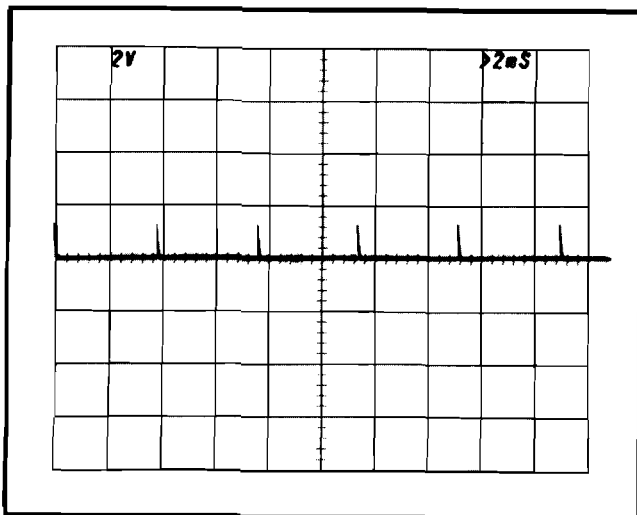

Fig. 5-10. Typical CRT display when checking VARIABLE control range.
- c. CHECK—CRT display for a two-division maximum spacing between markers (indicates adequate range for continuously variable sweep rate between the calibrated steps; see Fig. 5-10). Return the VARIABLE TIME/DIV to the CAL IN position.